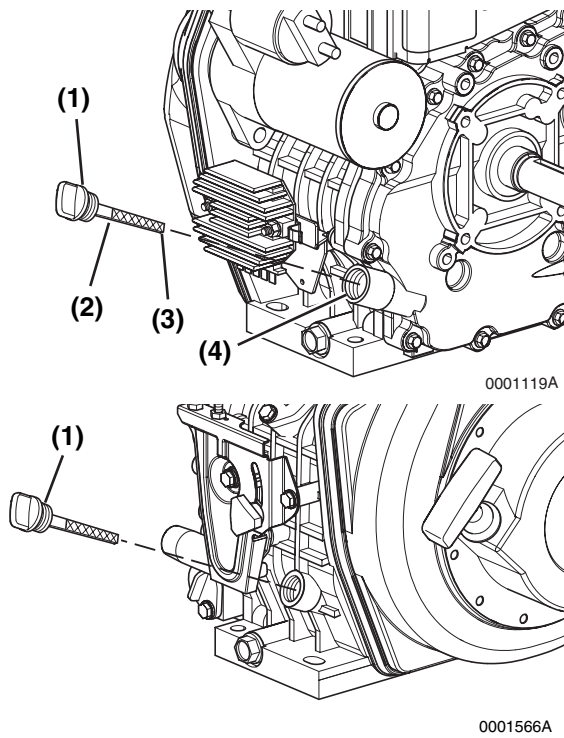

Figure 5
11. Add engine oil (**Figure 5, (4)**) as needed until the level is between the upper (**Figure 5, (2)**) and lower lines (**Figure 5, (3)**) on the oil cap / dipstick (**Figure 5, (1)**).
12. Replace the oil cap / dipstick (**Figure 5, (1)**) and tighten by hand. Over-tightening may damage the cap. If any engine oil is spilled, wipe it away with a clean cloth.